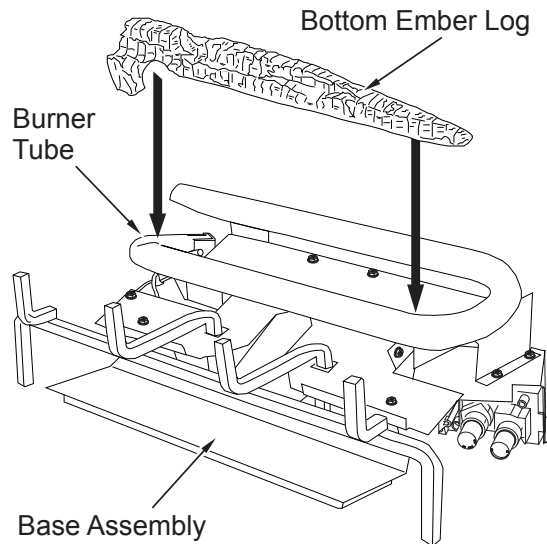

Figure 34 - Installing Bottom Ember Log
1. Place bottom ember log on base assembly as shown in **Figure 34**. The log should fit over the left side of the burner and rest in the middle of the U-burner.